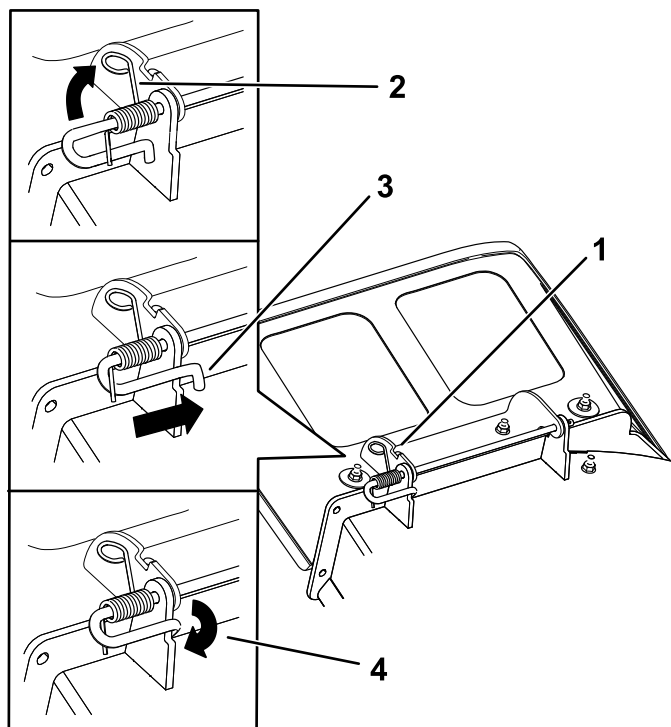

Figure 79
4. Position the new discharge deflector with the bracket ends between the welded brackets on the deck as shown in Figure 79.
6. Position the spring on the rod as shown in Figure 79 so that the shorter spring end comes from under the rod before the bend and going over the rod as it returns from the bend.
7. Lift the loop end of the spring and place it into the notch on the deflector bracket (Figure 79).
8. Secure the rod and spring assembly by twisting it so that the short end of the rod is behind the front bracket welded to the deck (Figure 79).